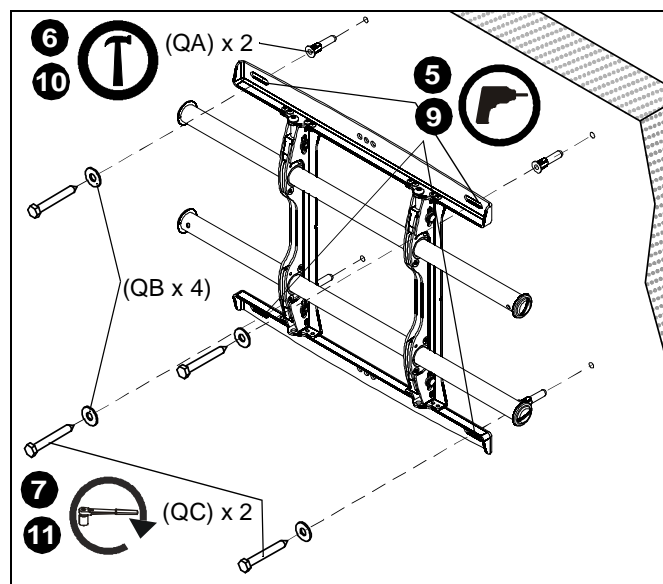

Figure 4
4. Using a level, mark the wall through both upper mounting slots. (See Figure 4)
6. Install an anchor (QA) into each pilot hole using a hammer.
7. Use two 5/16 x 2-1/2" lag bolts (QC) and two 5/16" flat washers (QB) to attach top of mount to anchors in wall.
8. Mark the attachment points for the lower mounting slots. (See Figure 4)
9. Drill one pilot hole at each marking for lower mounting holes. (See Figure 4)
10. Install an anchor (QA) into each pilot hole using a hammer.
11. Use two 5/16 x 2-1/2" lag bolts (QC) and two 5/16" flat washers (QB) to attach the mount to the wall through the lower mounting holes. (See Figure 4)